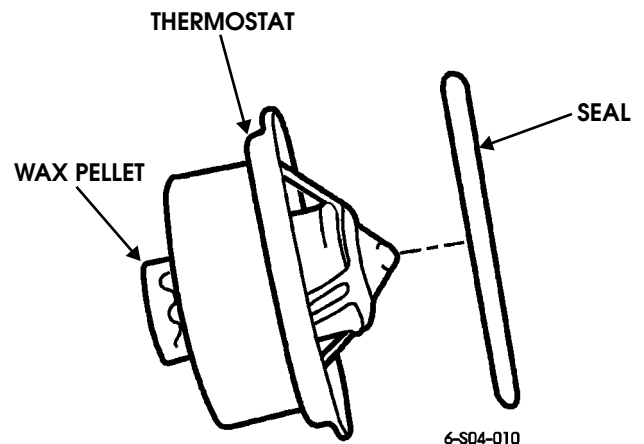

Figure 4-24: Turbo Diesel Thermostat
4. Remove both thermostats (Figure 4-24).